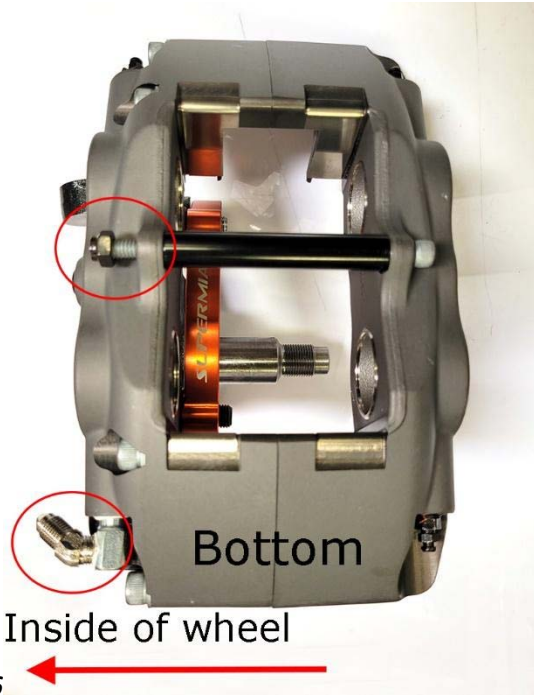

Fig 6
11. Install caliper without pads as shown in **Fig 6** Calipers are pre-cleared to fit OEM Miata spindle lugs. Smaller pistons on lower side of caliper, leading edge.